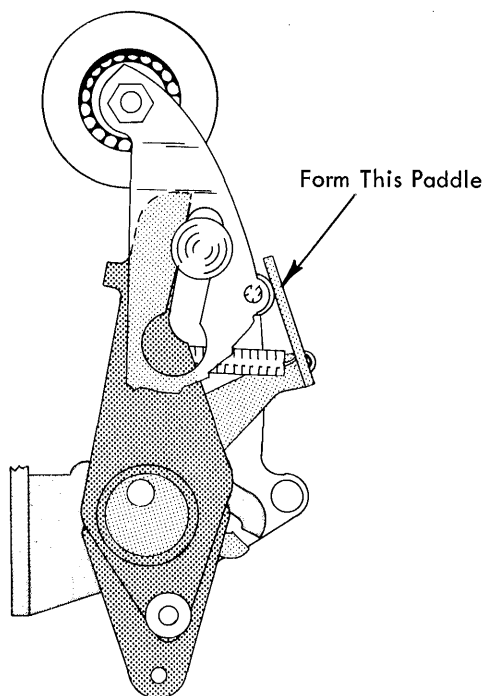

FIGURE 128. Arm Assembly In -3 Position
12. Ratio Change Adjustment - With the machine half-cycled under power to an upper case -3 character, form the paddle on the rotate eccentric arm until the upper case -3 character detents the same as the upper case -5 character. Each time the paddle (Fig. 128) is formed the machine must be recycled under power before observing the detenting of the -3 character. This allows the eccentric shoulder to reseat itself in the compensating arm.